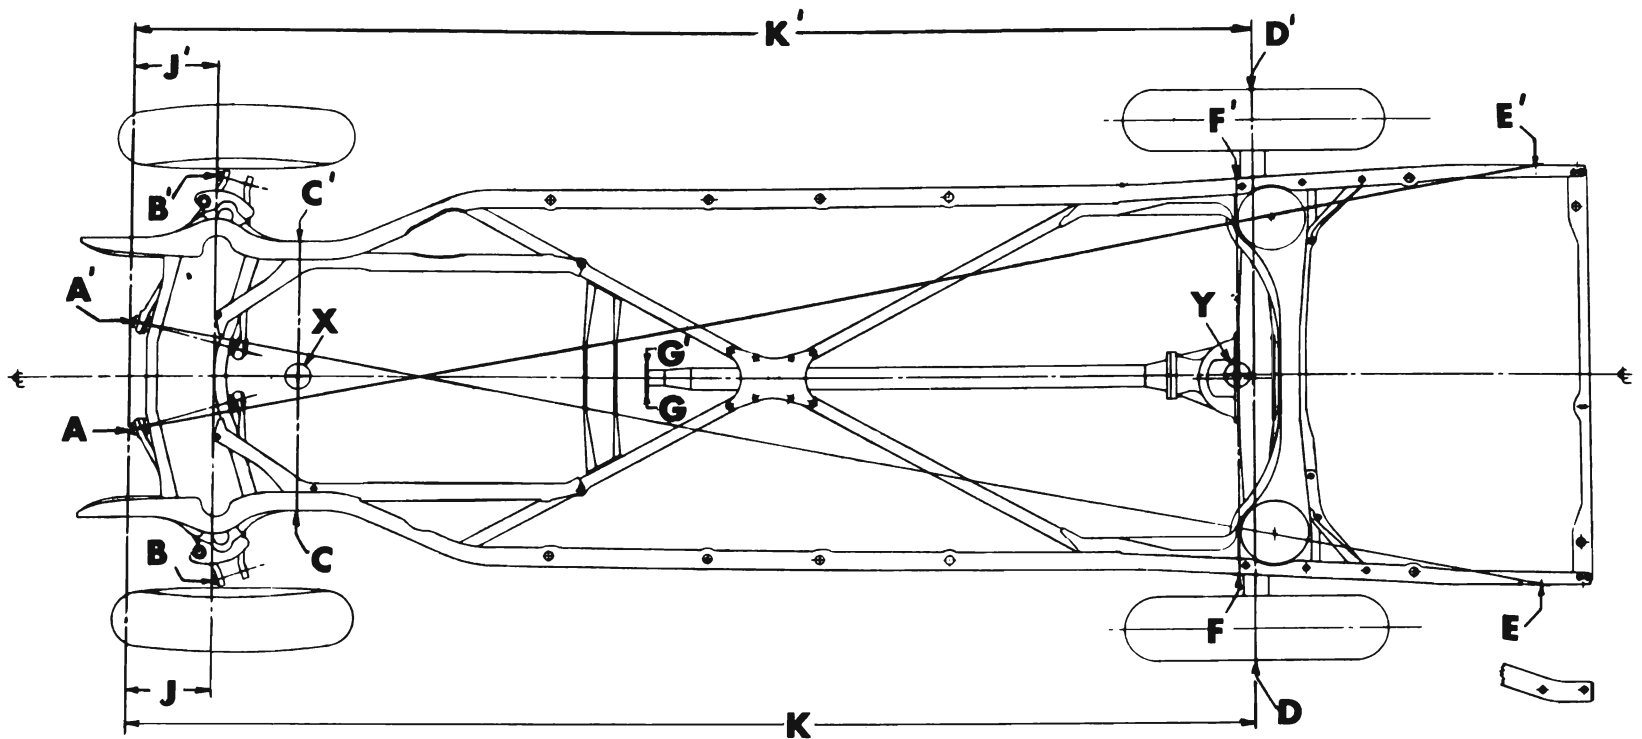

Figure 9-1—Checking Points for Frame and Suspension Alignment
1. Using a plumb bob, extend the following points to the floor and mark where point of plumb bob touches floor, as shown in figure 9-1.